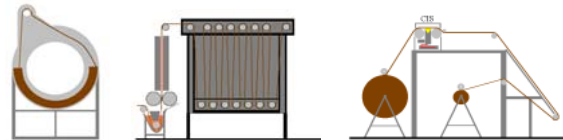

Fig.5: Intermediate checkpoint
- b) An intermediate checkpoint (Fig.5)